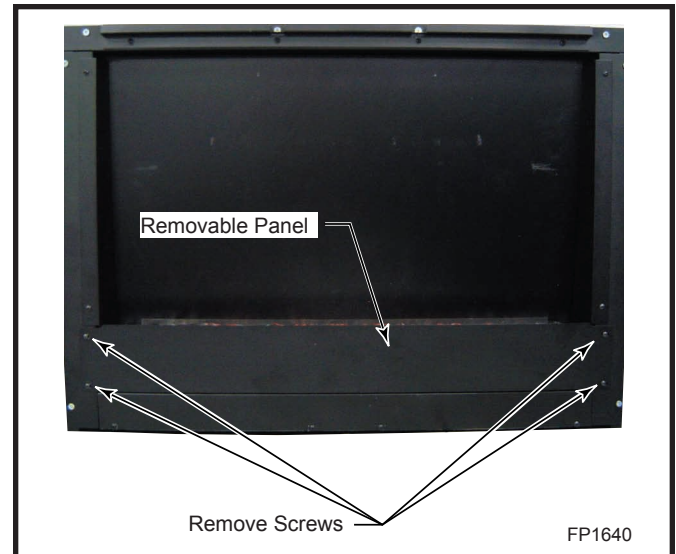

Fig. 6 Removable panel.
4. Remove the removable panel by unscrewing the four (4) screws. (Fig. 6)